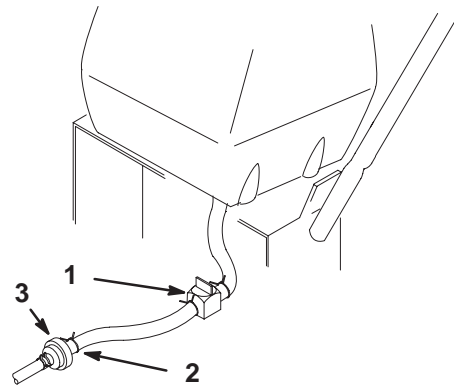

Figure 42
2. Close fuel shut-off valve at fuel tank (Fig. 42).
3. Squeeze the ends of the hose clamp together and slide it up the fuel line away from the fuel filter (Fig. 42).
4. Pull the fuel line off the fuel filter (Fig. 42). Open the fuel shut-off valve and allow gasoline to drain into a gas can or drain pan.
3. Close fuel shut-off valve at fuel tank (Fig. 42).
7. Open fuel shut-off valve at fuel tank (Fig. 42).